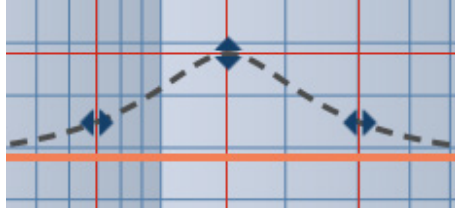

Figure 44. Center and Outer Handles
2. Click and drag the **Boost/Cut** handle, located at the center frequency in the graph (see figure 44 on the next page), up or down to the desired position or value. Alternatively, enter the value in the **Boost/Cut** field for the selected filter, or click the up or down arrows next to the field until the desired value is displayed.